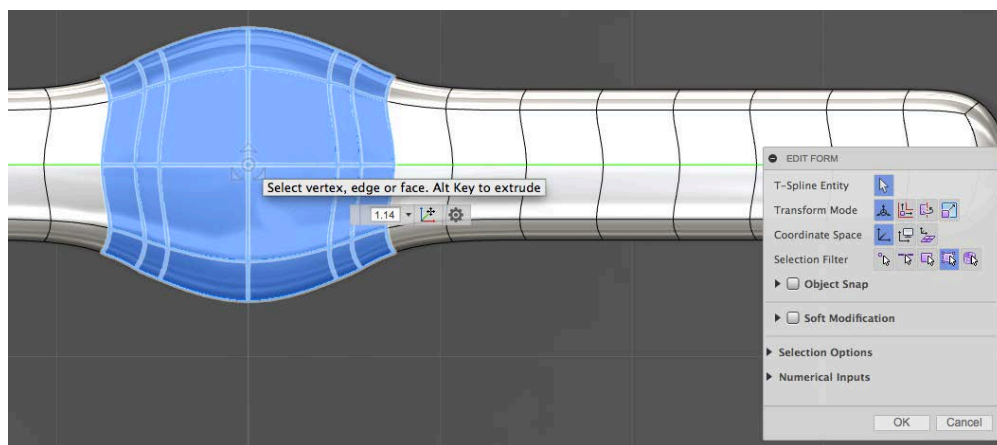

Fig. W04
- d. Select faces for case and scale up (Fig. W04).